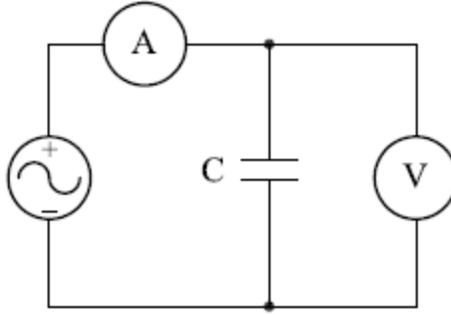

Fig3: experimental circuit of part 3
- 1- Connect the circuit in fig 3